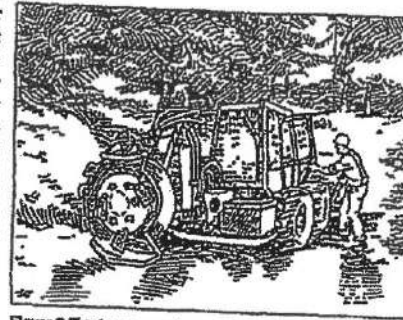

Figure 3. Tractor-mounted mower.
- *Mowers* (Figures 3 and 4) not only remove and grind brush, but they can also fell small trees. Grinding and scattering improves aesthetics, facilitates debris decomposition, reduces fuel loads, and minimizes fire hazard. Appropriate timing and frequency can affect plant community development.